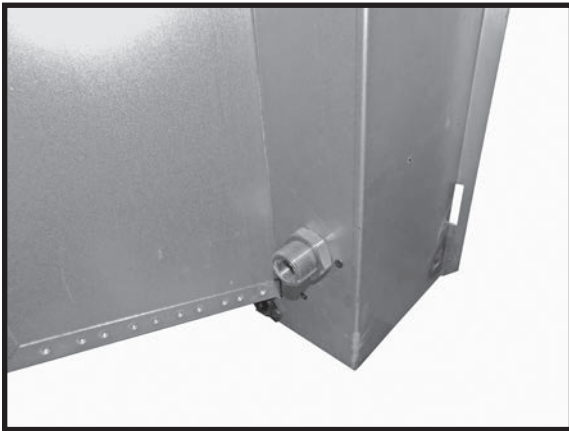

Figure 34: Tofino gas connection.
- Gas supply line connection is located on the left rear side of the insert (Figure 34). Gas connection accepts a 3/8" N.P.T. fitting. Correct gas line diameter must be used to assure proper operation and pressure. **Do not use external threads for gas connections. Use internal threads only.**